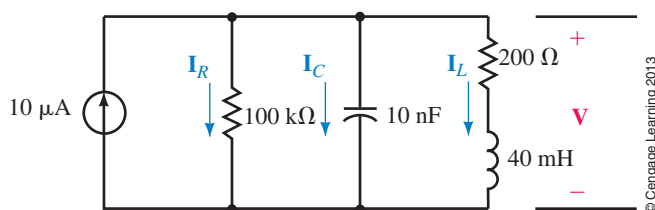

FIGURE 21-67
26. Repeat Problem 25 for the circuit of Figure 21-67.